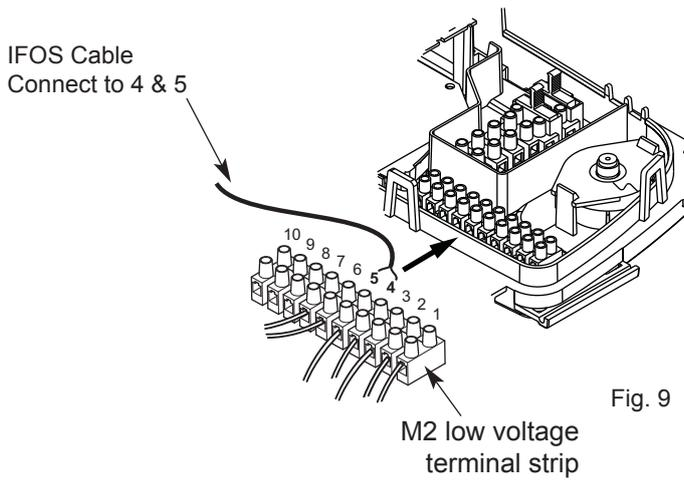

Fig. 9
2. Connect the IFOS cable to 4 & 5 on the M2 low voltage 10 way terminal strip (Fig. 9). There is no polarity.